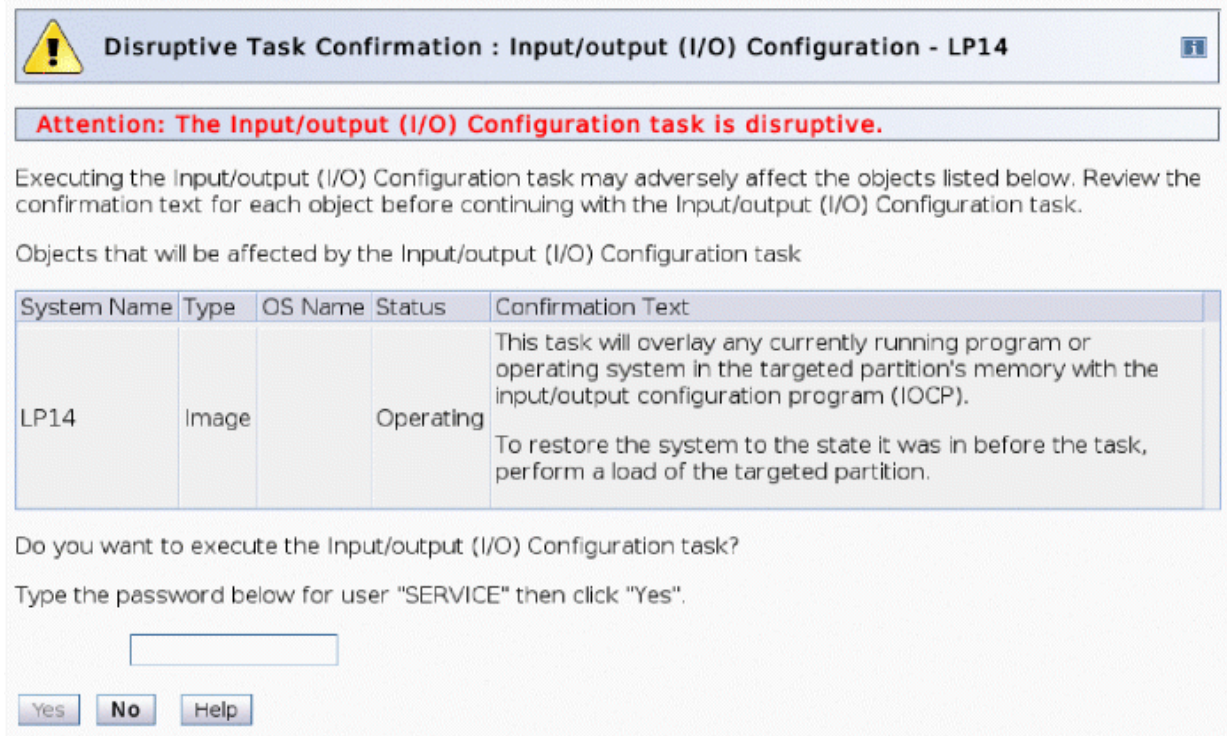

Figure 21. Disruptive Task Confirmation window
3. Figure 21 on page 18 shows the Disruptive Task Confirmation window. This window warns that any processor program or operating system in the targeted logical partition will be overlaid with the stand-alone code to perform these functions.